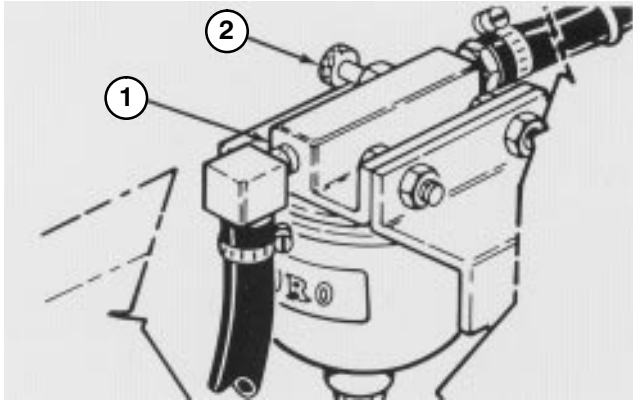

Figure 31
2. Loosen air bleed screw on top of fuel filter/water separator (Fig. 31).